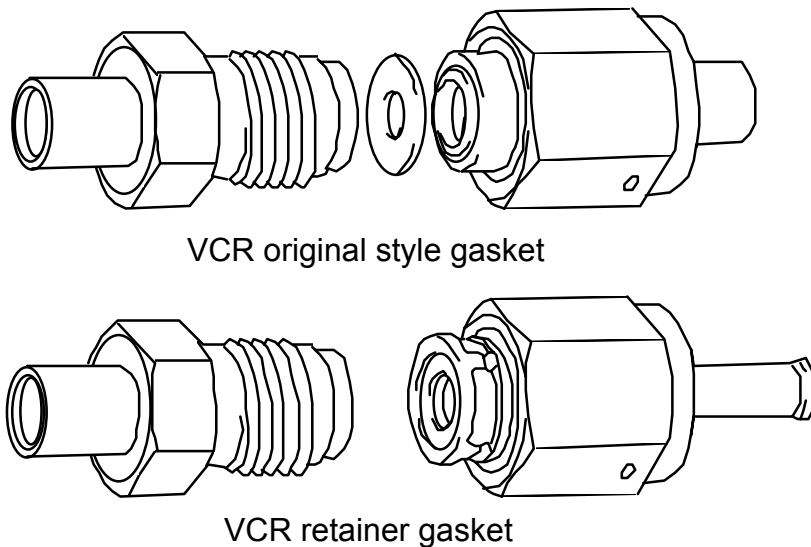

Figure 2-2 VCR compatible couplings
The AFC50.MD mass flow controller is normally supplied with 1/4" male VCR compatible couplings on both sides. To install the AFC, follow the steps listed below. Refer to figure 2-2.
- b) For VCR retainer gaskets, snap the gasket onto the male coupling. See figure 2-2.